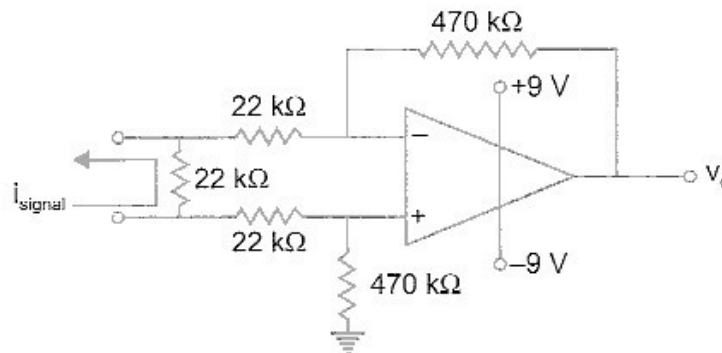

Fig. P. 2.11
2.11. Calculate the output voltage of the circuit in Fig. P. 2.11 if the input signal is a 5.5 mA current.